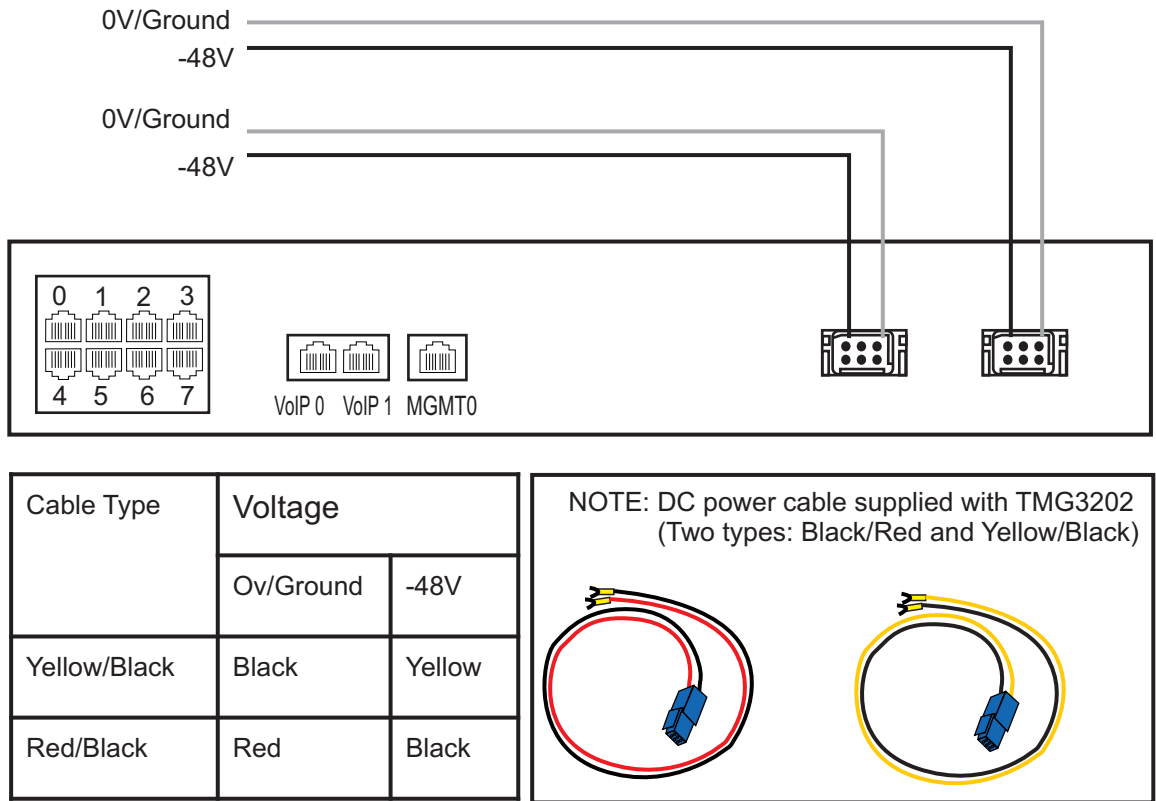

Figure 2.8 TMG800 Redundant DC Supply Wiring Diagram
1. Connect one DC cable supplied with the TMG800, as shown in figure 2.8 on page 16, to the DC outlet at the rear of the TMG800.
**Note** Two types of cable with different coloring are available. Refer to figure 2.8 on page 16 for the appropriate wiring information.
2. Connect one lead of the DC power cable to the positive terminal of the DC power source, as shown in figure 2.8 on page 16.